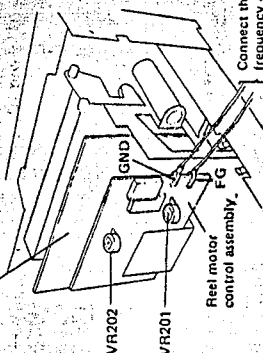

Fig. 12-5 FF/REW Rotating speed adjustment
1. Connect a frequency counter between the FG and GND terminals on the reel motor control assy (see Fig. 12-5).